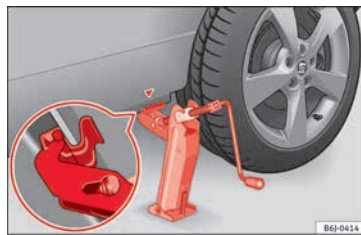

Fig. 67 Fitting the jack.
• Align the jack so that the arm of the jack fits around the rib under the door sill and the movable base plate of the jack is flat on the ground »» **Fig. 67.**